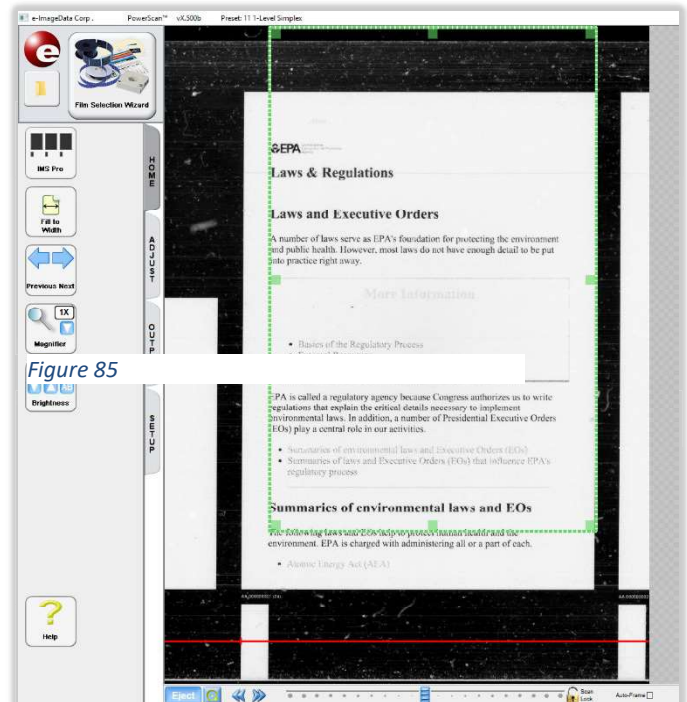

Figure 85
- When clicking on the *IMS Pro* button for the first time, the *Calibrate Straightness* window appears. *Figure 85*